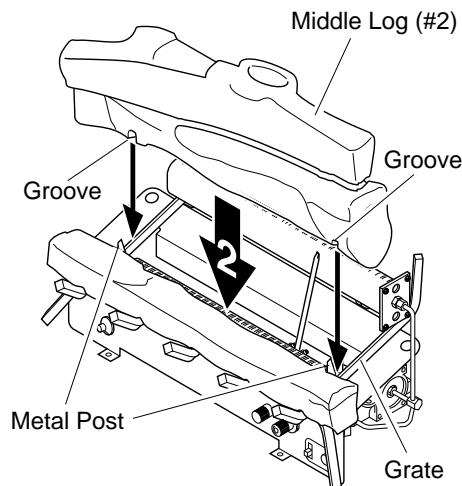

Figure 17 - Installing Middle Log (#2)
2. Rest middle log (#2) behind metal posts on front burner. Make sure the grooves in the bottom of the log fit over the metal posts. Bring the log forward next to the metal posts. The cutout on the middle log must be on top (see Figure 17).